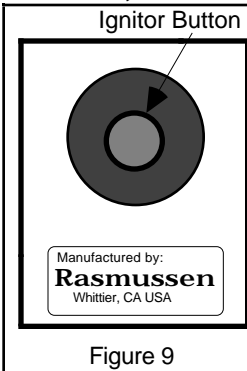

Figure 9
4. Depress Valve Knob until air is bled and gas flows to pilot. Press **PIEZO IGNITOR** Button (Figure 9) to light pilot. Continue to hold valve knob in until Pilot remains lit when knob is released.